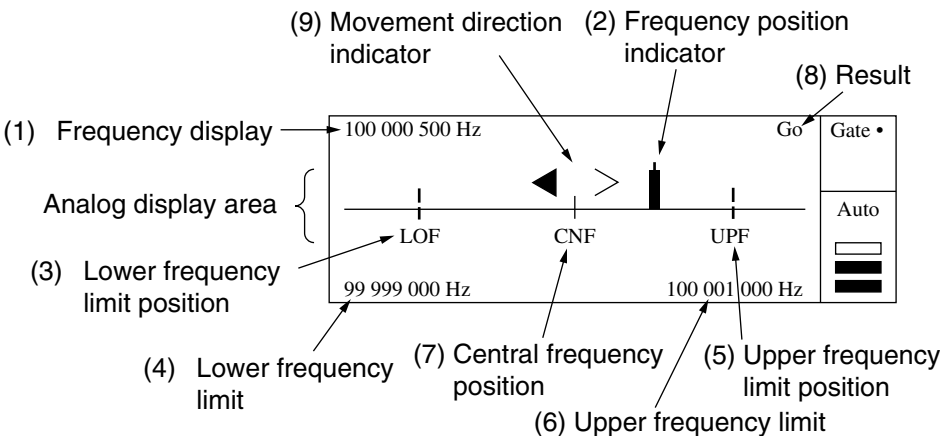

Fig. 4-4 Template Screen
Figure 4-4 shows the template screen that visually indicates whether the frequency measurement results fail in the preset range. This screen allows you to instantly make a decision without calculating frequency values when making adjustments.
The following describes (1) to (9) found in Fig. 4-4 above.
- (1) Frequency display